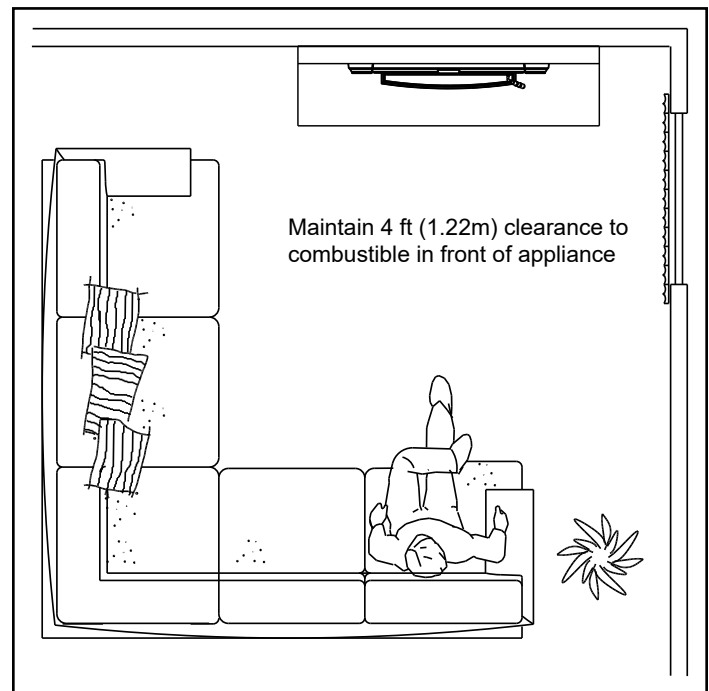

Figure 14.2
- Do NOT place combustible objects within 4 ft (1.2 m) of the front of appliance (**Figure 14.2**).